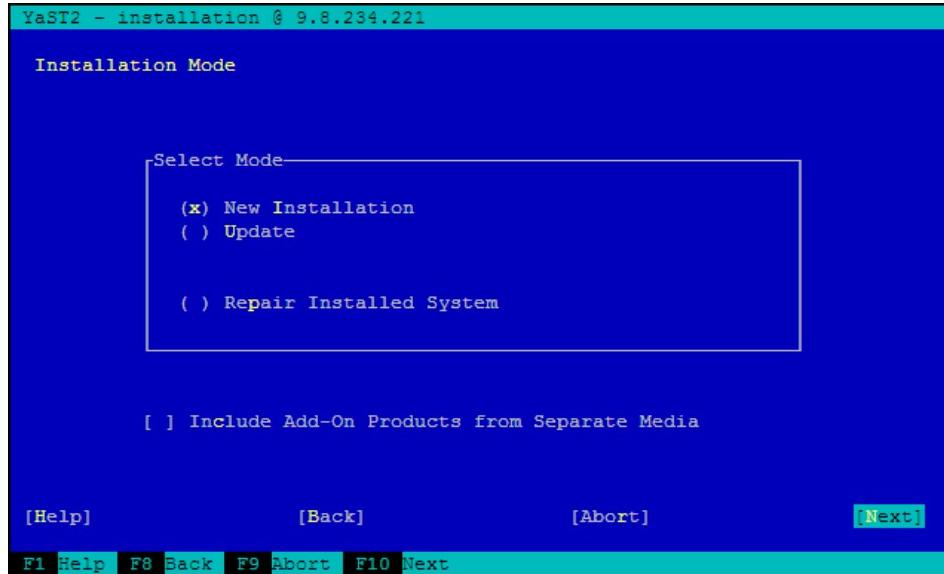

Figure 9-18 Installation Mode
12. Select **New Installation** for the Installation Mode, as shown in Figure 9-18 on page 381.